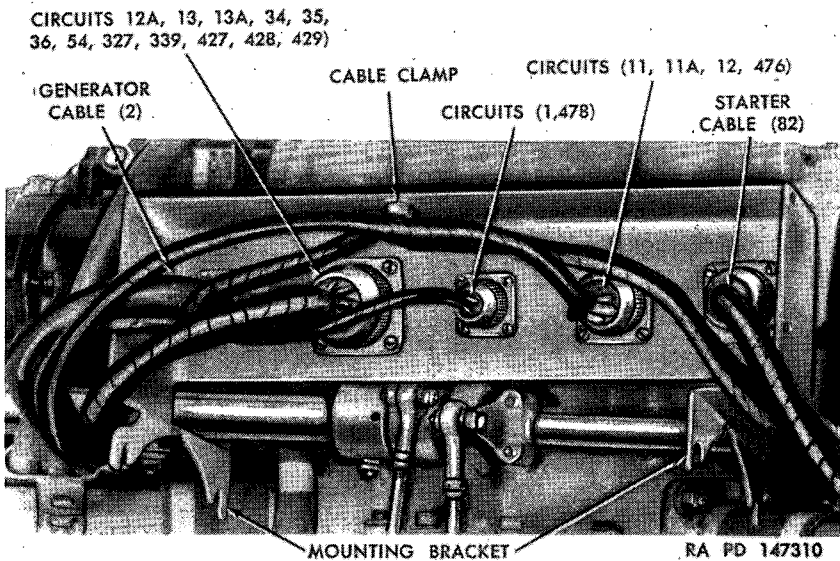

Figure 188. Engine wiring junction box—rear view.
b. REMOVAL. Turn off master relay switch (fig. 18). Remove front section of top deck (par. 158). Remove five connector plugs from engine wiring junction box (fig. 183). Loosen two nuts on each side of box that secure box to studs on engine accessory case (fig. 188). Swing engine wiring junction box to rear (fig. 188). Loosen cable clip on box (fig. 188) and free cable. Remove each cable connector receptacle from box by removing four screws and lift out engine wiring junction box.
c. INSTALLATION. Position five connector receptacles to junction box and fasten each with four screws (fig. 188). Insert cable (11, 11A, 12, 476) in clamp (fig. 188) and fasten. Position junction box to mounting studs on accessory case (fig. 188) and secure with two nuts on each side. Connect five connector plugs. Each of these plugs will connect only into proper receptacle. Install front section of top deck (par. 161).